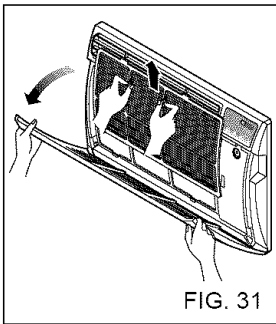

FIG. 31
- Pull the inlet grille forward and pull out the air filter. (FIG. 31)